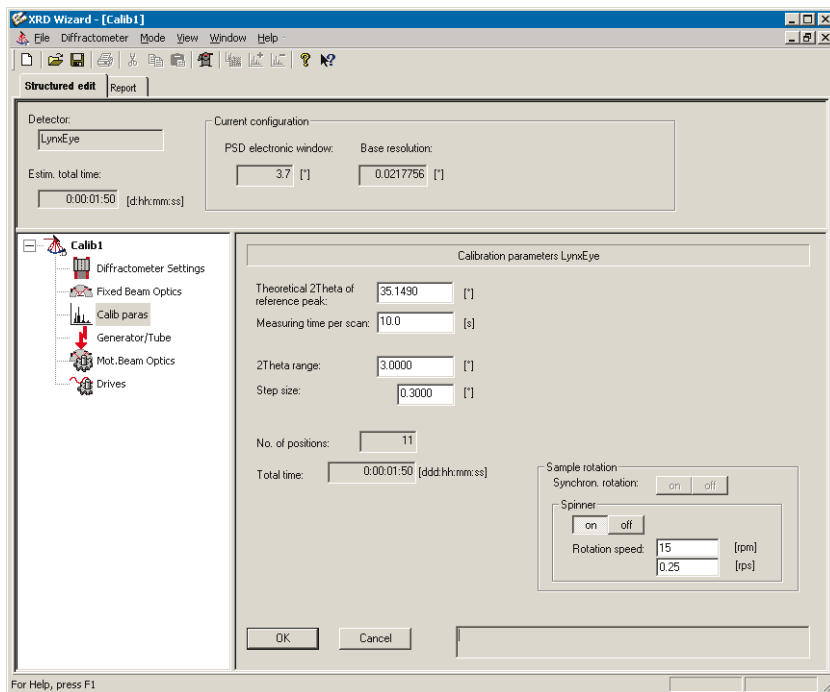

Figure 8.2 Create the DQL file. Example shown is for Corundum sample and Cu radiation
5. Determine the theoretical 2-theta values using Table 8.1 or Table 8.2. Input the values into the Calibration Parameters screen (see Figure 8.2).